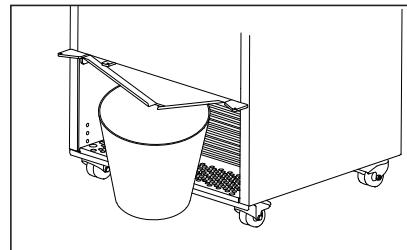

fig. 12
3. Position a bucket or a suitable container under the defrost water drain. (see fig 12)